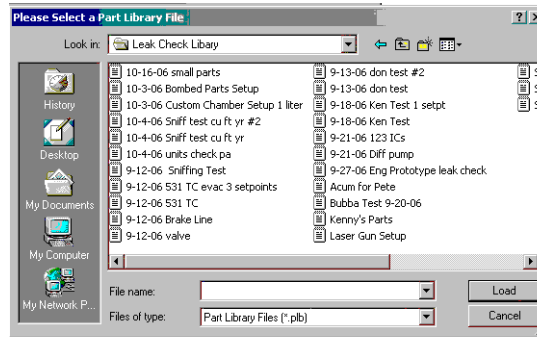

Figure 2-34 Save Dialog Box
14. Click **Save** and Figure 2-34 appears.